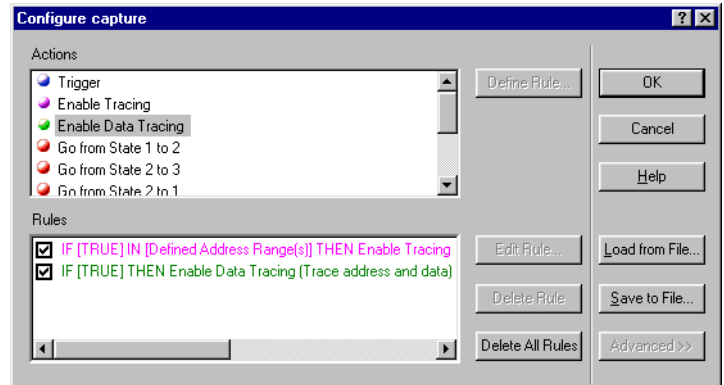

Figure 8-26 Completed Configure capture dialog box
4. Click **Finish** to complete the rule. The Configure capture dialog box shown in Figure 8-26 now has two rules in the Rules list.